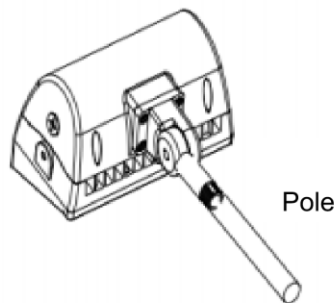

figure 1.2
- If mounting to a pole, put all wires into the mounting pole (figure 1.2).